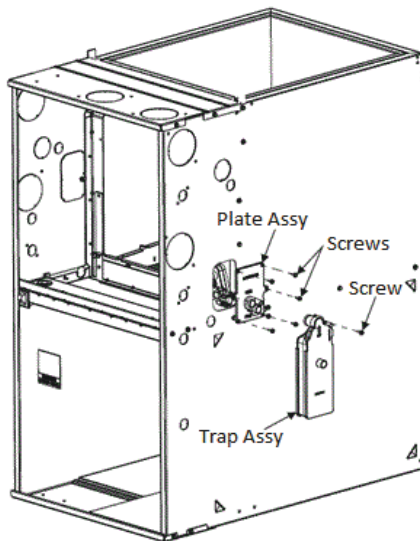

Fig. 15 – Upflow Condensate Drain
2. Screw the adapter plate to the trap adapter using provided machine screw, see Fig. 15.
3. Screw the adapter plate to the side of casing using six (6) of the provided sheet metal screws, see Fig. 15. Drilling pilot holes is recommended to better align the plate with the knockout or plug opening.
4. Screw the trap to the adapter plate using provided machine screw, see Fig. 15.
2. Screw the adapter plate to the side of casing using six (6) of the provided sheet metal screws, see Fig. 15.